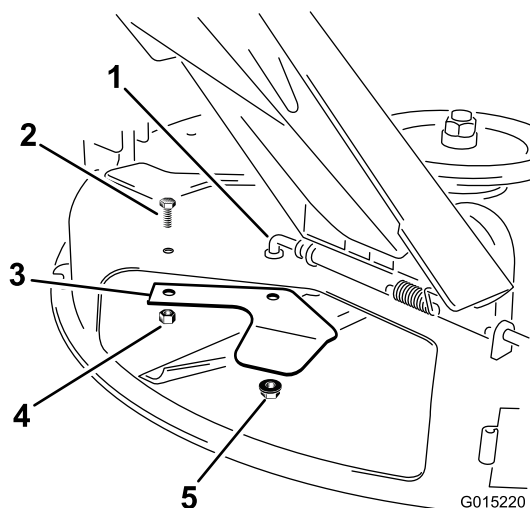

Figure 20
2. Remove the lock nuts and bolt securing the cutoff baffle to the underside of the deck (Figure 20). Retain all fasteners.